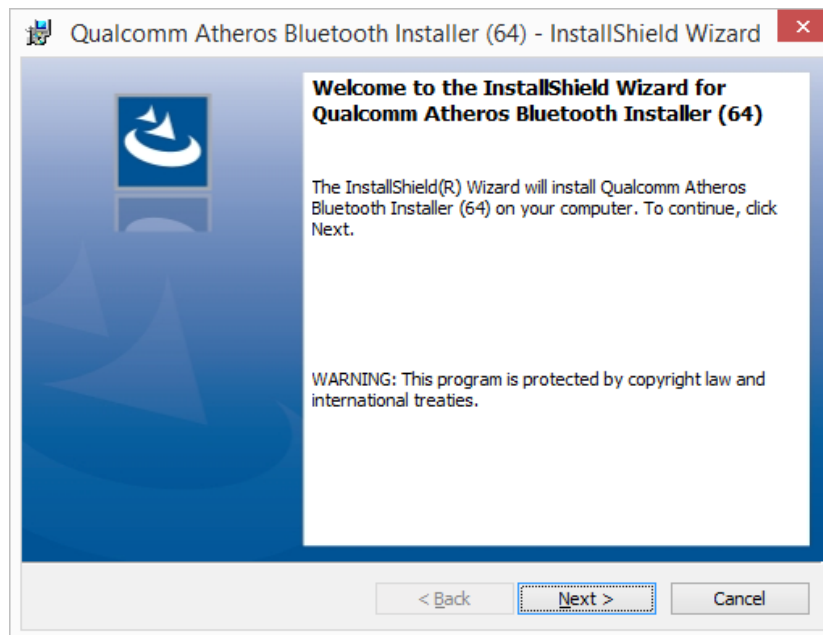

Figure 5-8: Bluetooth Driver InstallShield Wizard
Step 2: Double click the setup file in the folder. The InstallShield Wizard screen appears (**Figure 5-8**).